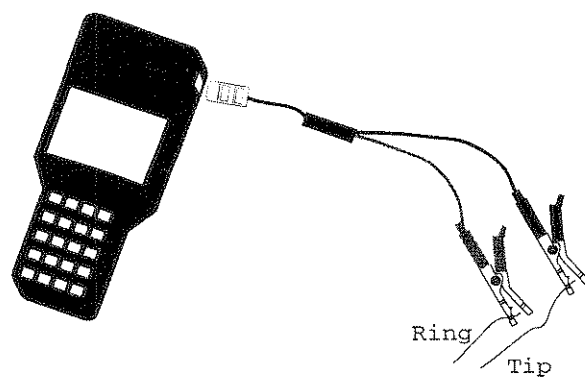

Figure 6-10 Connecting the SunSet to the Cable Pair
1) Connect the SunSet to the circuit with the TDR/LINE/DMM/jack. A sample diagram is shown in Figure 6-10. Plug an RJ-45 into the SunSet's TDR/TIMS/DMM/jack. Connect the alligator clips at the other end directly to the cable pair. There must be an open at the far end for this test.